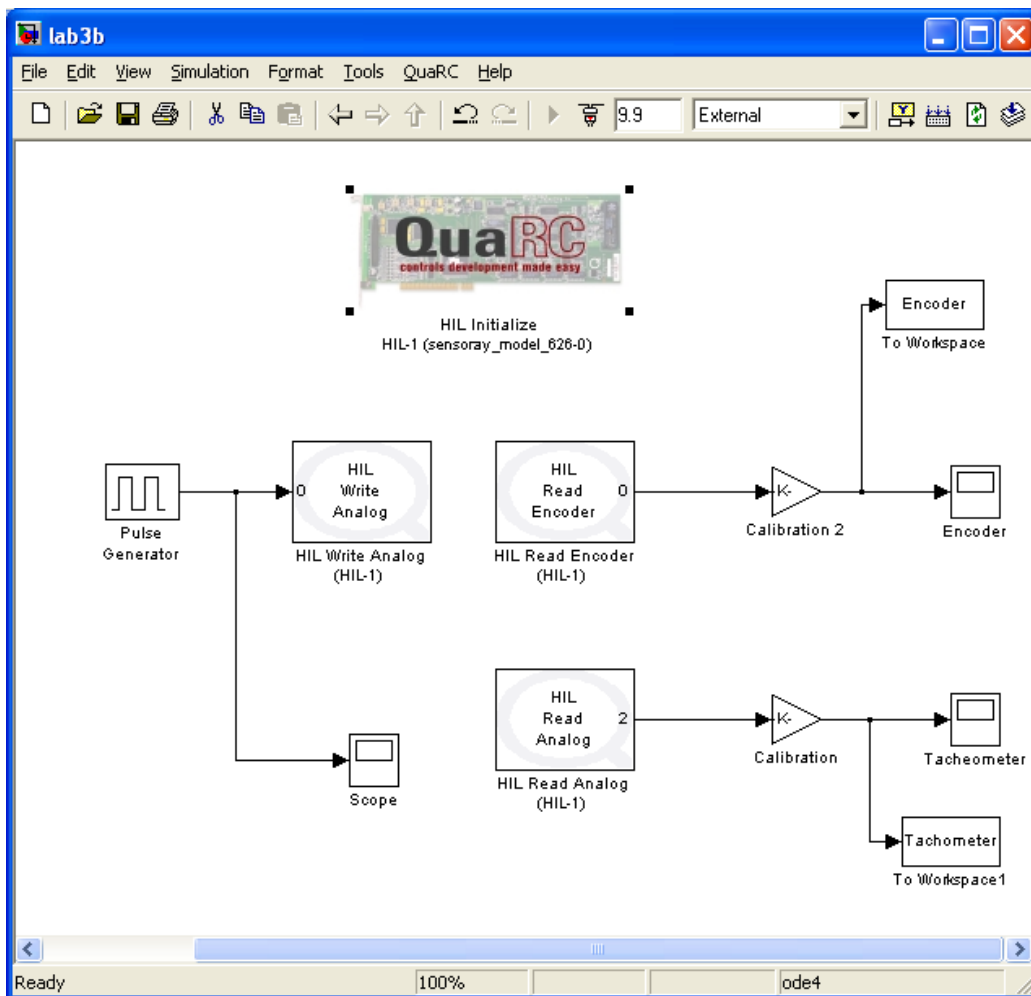

Figure 3.5: Simulink model for Lab 3
10. To obtain a “better” impulse, we introduce the **Pulse Generator** model as shown in Figure 3.5. Note that the analog output icon has been added since the impulse will be added automatically in this case.